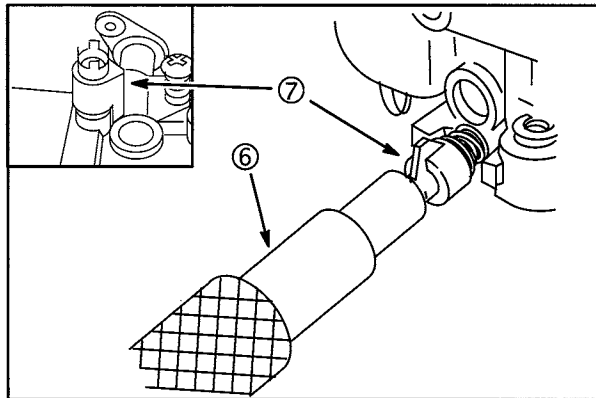

Fig. 13
- a. Position limiter cap (7) so that stop(s) on limiter cap are at mid point between stop(s) on carburetor body, **Fig. 13**.